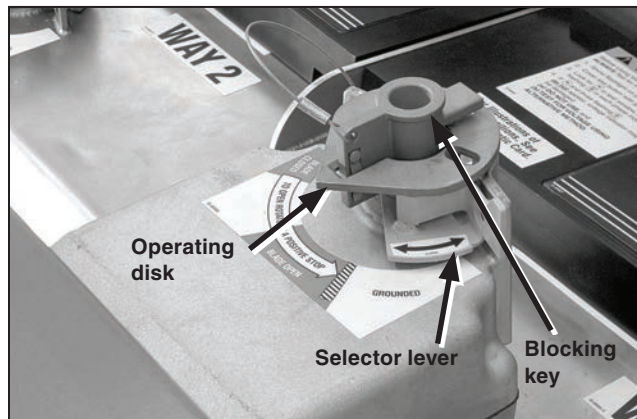

Figure 35. "Open" position indication on motor operator.
STEP 2. The motor operator controls will indicate the correct position of the motor operators and mechanism operating shafts via LEDs on the front panel assembly. See Figures 35 and 36.